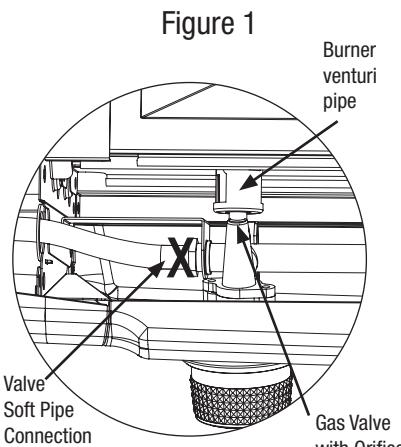

Figure 1
(Figures 1, 2 and 4)
4. Spoon leak check solution at all "X" locations (Figures 1, 2 and 4)